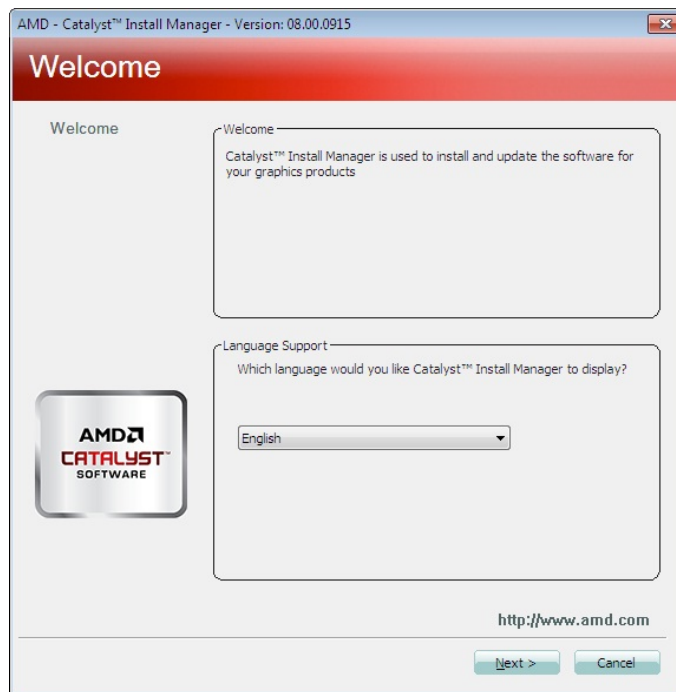

Figure 6-1: Graphics Driver Welcome Screen
Step 4: The **Welcome Screen** in **Figure 6-1** appears. Select the display language and click **Next** to continue.